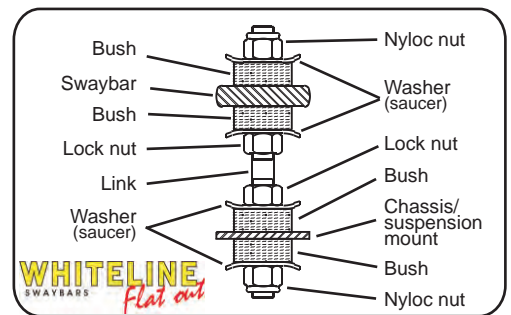

Fig.1. Whiteline double pin type link.
- For swaybars supplied with new links and hardware, refer to Figures 1 to 4 for most common endlink types and their correct assembly.
Caution: Do not over tighten swaybar pin type link bushes, refer Fig 1. Nuts should be tightened until washer meets the bush & stops rotating. Then tighten a further 2/3 of a turn. Over tightening compresses and pre-loads the polyurethane bush which reduces articulation and may cause premature failure.